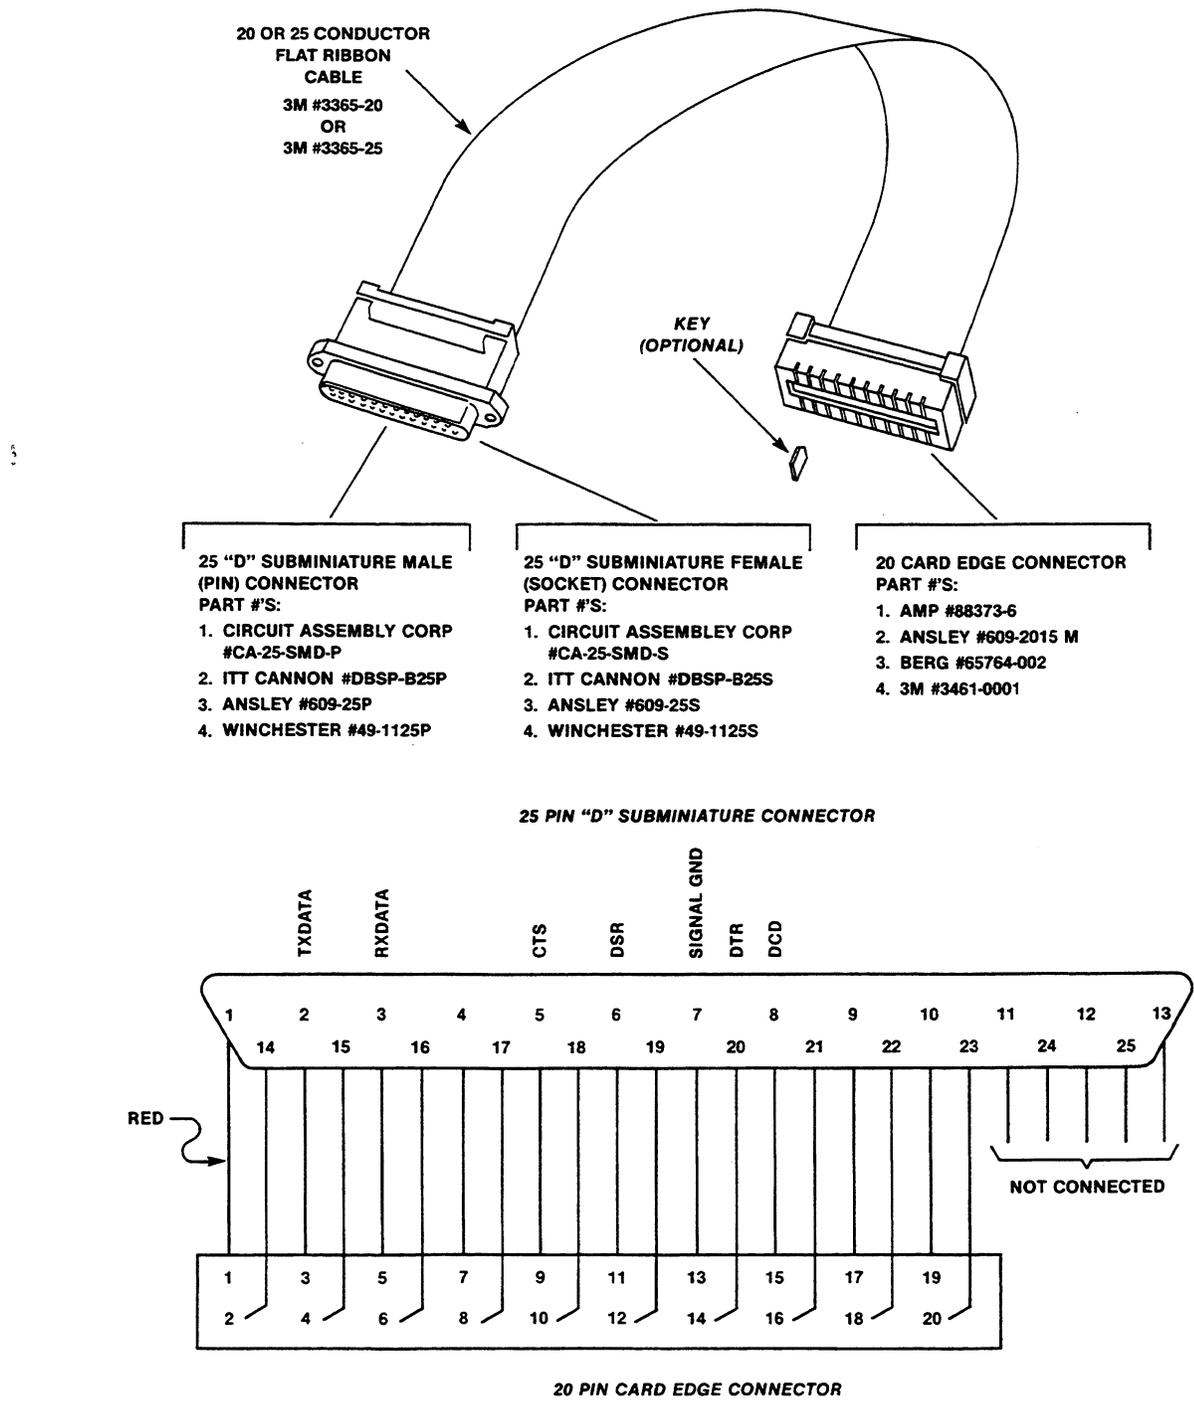
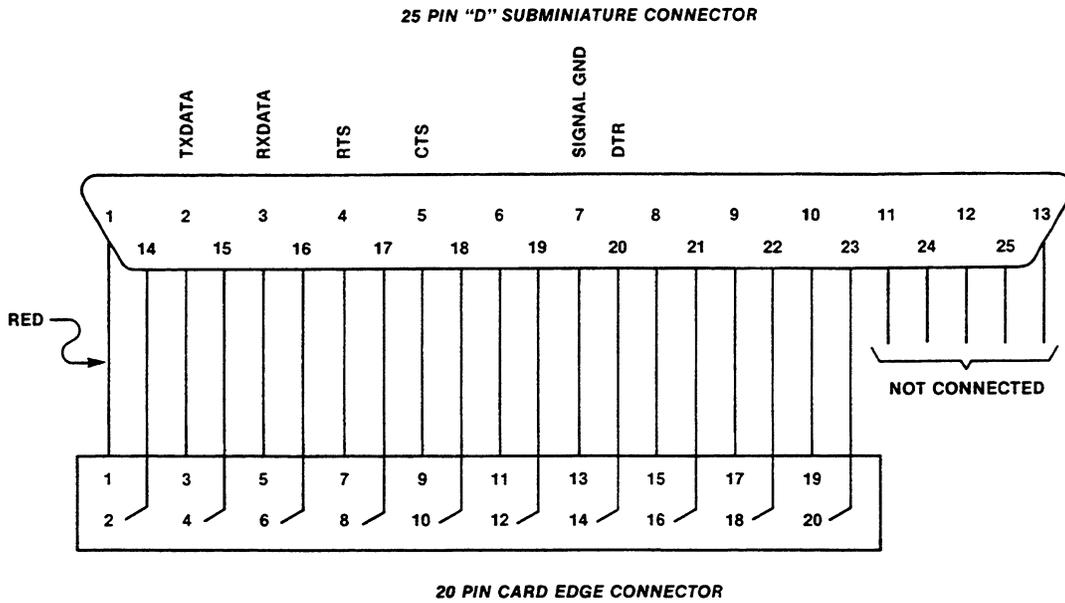

FIGURE 2-7. Terminal Cable Detail and Signal Line Connections
FIGURE 2-13. Host Cable Signal Line Connections
As an alternative, the user can manufacture his own cable. Figure 2-7 shows a detail of the cable, lists several suitable vendor part numbers (any equivalent part can be used), and shows the conductor line designations. The cable requires a 25-conductor flat ribbon; connectors should be installed according to manufacturer's directions. Also, the card edge connector can be keyed to prevent incorrect cable connection.
2.5.2.2 Cable Connection. The same cables referenced in paragraph 2.3.1 can be used with the host serial port. As before, the cable can be either purchased or manufactured with the components referenced in Figure 2-7. The card edge connector can also be keyed. Figure 2-13 shows the host computer serial port cable signal line connection.